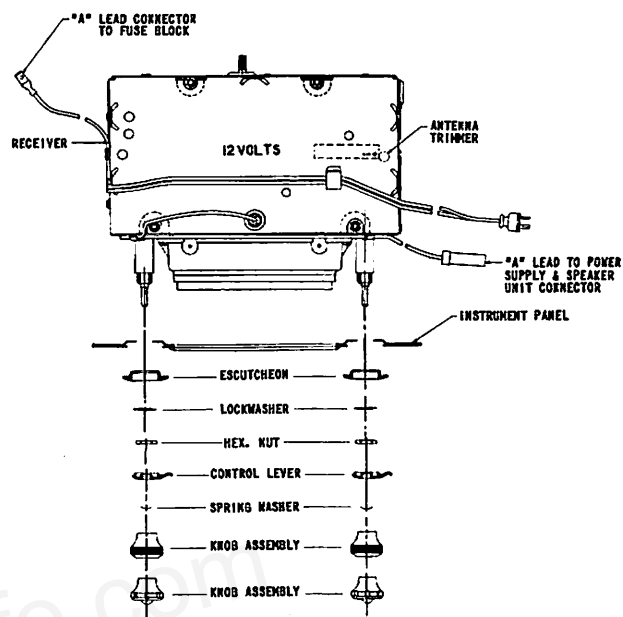

Figure 2
3. Put the control knob escutcheon cups on the shafts and attach with lockwasher and thin nut. See figure 2.
10. Turn the radio on and allow it to warm up. With the antenna fully extended, tune in a low frequency station between 600 and 1000 KC and adjust the antenna trimmer for maximum volume. See figure 2. The antenna trimmer can be reached through a hole provided in the top of the Glove Box.